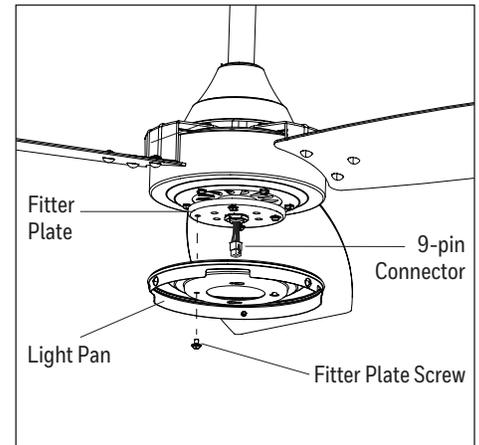

Figure 5.6
6. Remove one of the four fitter plate screws preassembled to the fitter plate and loosen the other three but do not remove. Feed the 9-pin connector through the center hole in the light pan. Align the keyhole slots in the light pan with the loosened screws in the fitter plate. Turn light pan clockwise and replace the previously removed fitter plate screw. Tighten all screws (Figure 5.6).